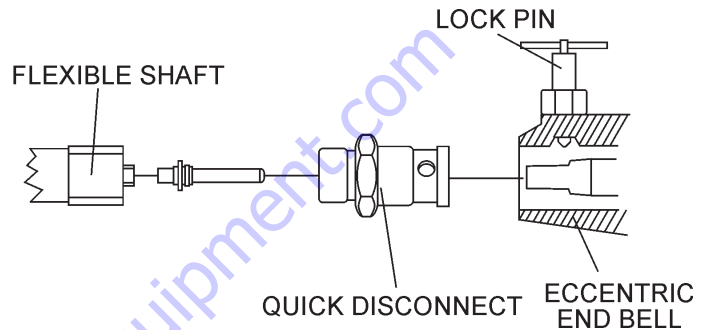

Figure 13. Couplings
1. Connect the 382V Flexible Shaft to the Quick Disconnect coupling (Figure 13).